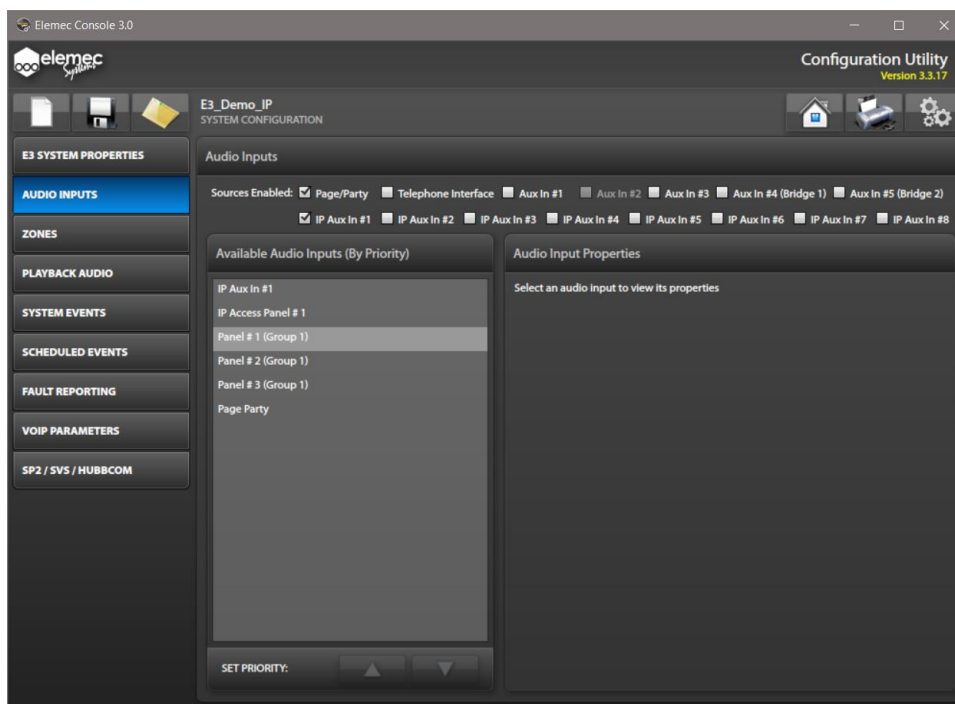

Figure 66. Audio Inputs Configuration
**NOTE:** Aux #2 is only available if insert one is not enabled. Aux #3 is only available if insert two is not enabled. Aux #4 and Aux #5 are only available in stand-alone systems. In the figure shown (see Figure 66), INSERT 1 is enabled on the SYSTEM PROPERTIES screen, which disables AUX IN #2 here.